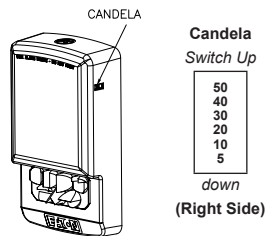

Figure 4: Settings
5. Verify appliance settings are correct for your application. Factory setting is 5 cd for strobe. Candela setting is shown in Fig. 4.